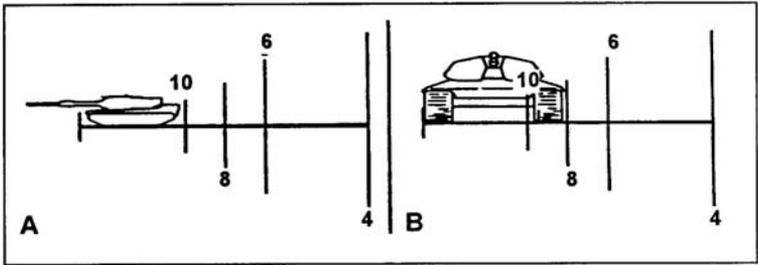

Figure 071-315-2308-3. Range determination using horizontal lines
(2) Read the placement of the vehicle width on the range scale as one-half of the range scale value. As shown in B, figure 071-315-2308-3, the range to the vehicle is 400 meters.